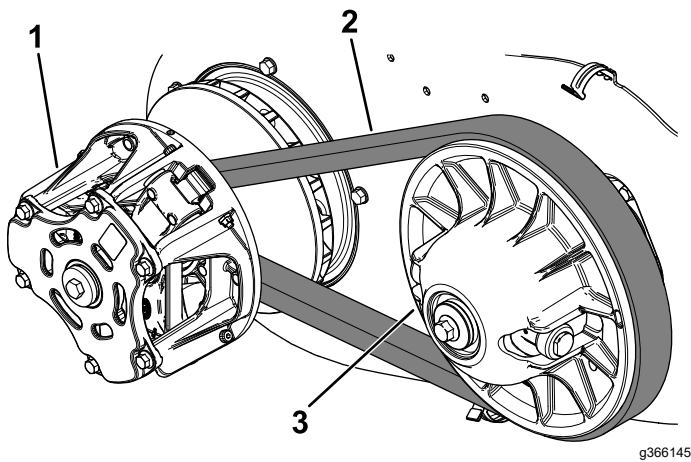
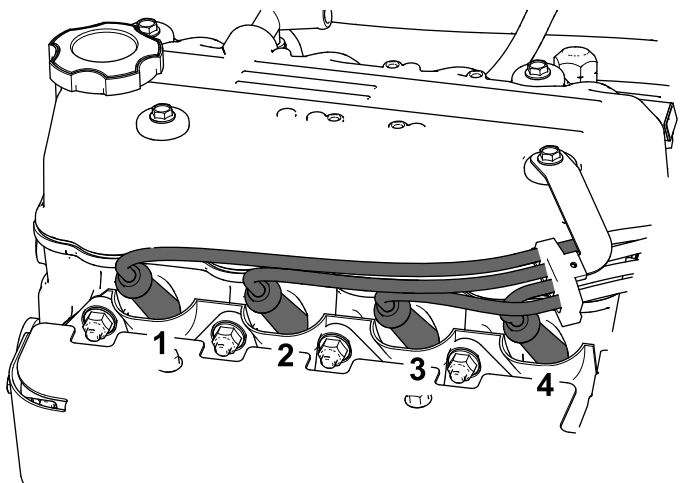

Figure 107
Figure 108
4. Rotate the primary clutch (Figure 107) until the exhaust valve on cylinder 1 (Figure 108) is completely open.
1. Rotate the primary clutch (Figure 107) until the intake valve on cylinder 1 (Figure 108) is completely open.